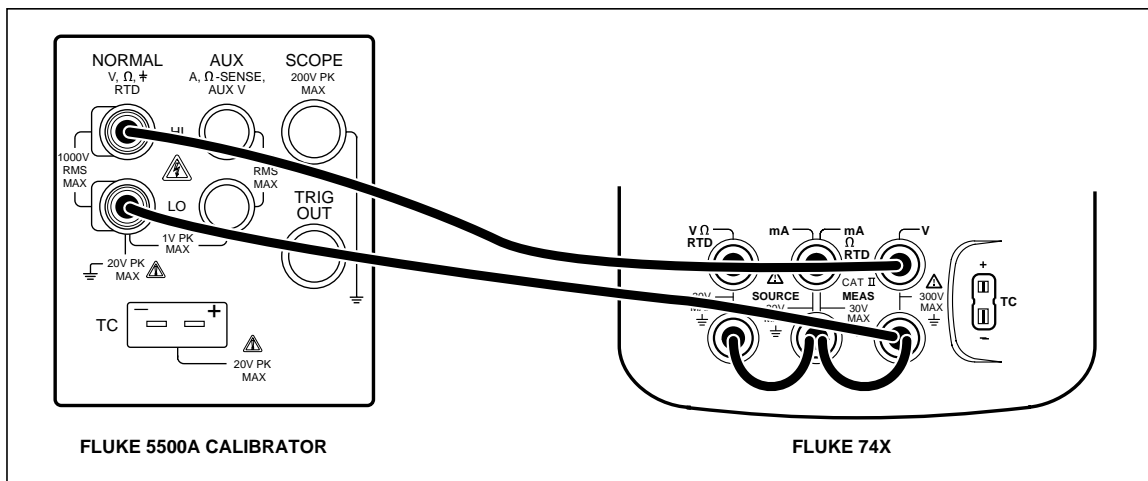

Figure 2. DC Volts and AC Volts Measurement Connections
1. Connect the UUT to the 5500A as shown in Figure 2. Connect the three lows (black input jacks) with jumpers.
1. Connect the UUT to the 5500A as shown in Figure 2. Connect the three lows (black jacks) with jumpers.